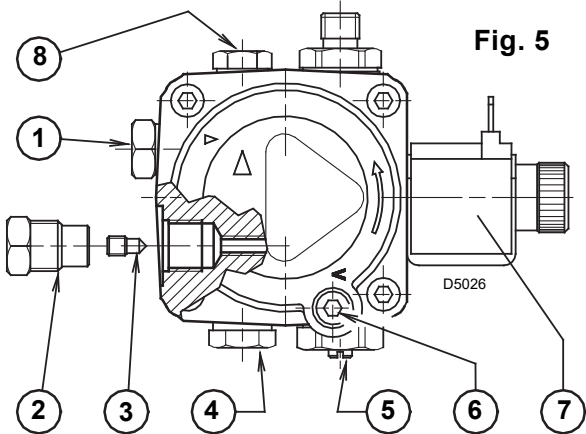
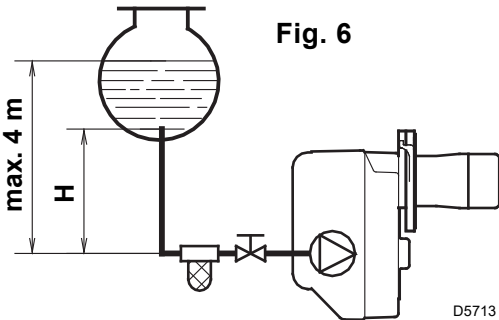

Fig. 5
Fig. 6
- The pump is designed to allow working with two pipes. In order to obtain one pipe working it is necessary to unscrew the return plug (2), remove the by-pass screw (3) and then screw again the plug (2). (See Fig. 5).
On the system in Fig. 6 it is sufficient to loosen the suction gauge connection (5, Fig. 5) and wait until oil flows out.
To change it act on pump pressure adjust screw (4, Fig. 5, page 4).